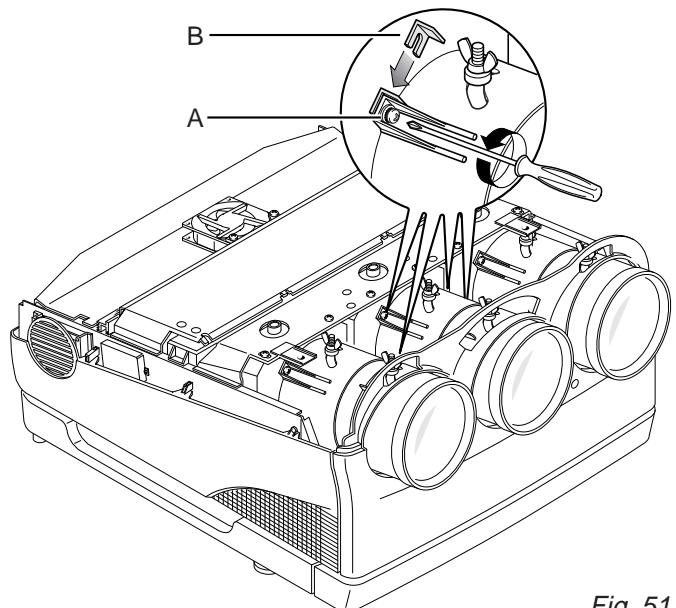

Fig. 51
Now slightly loosen the 4 screws (A) for each tube, change the spacers (B) Fig. 51 (**see the spacers table**) and then tighten the screws.